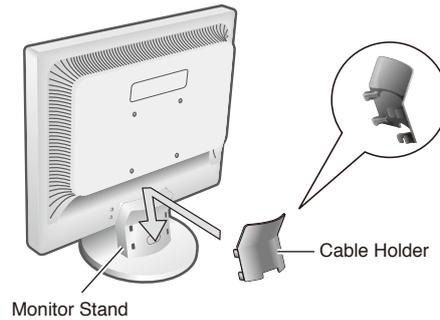

Figure 2
3. Attach the cable holder onto the monitor stand (**Figure 2**).